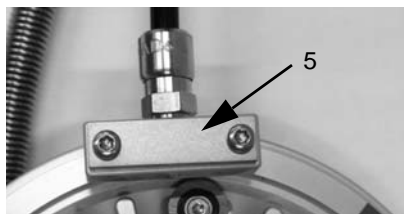

Fig. 6: DHS 1100 with blind cover
For operation with a graphite dome and without cooling nozzle, a blind cover must be mounted on the connector (2) instead of the cooling nozzle (see Fig. 6).